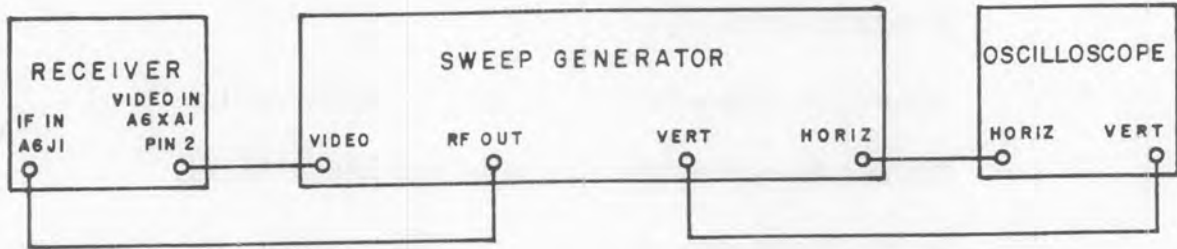
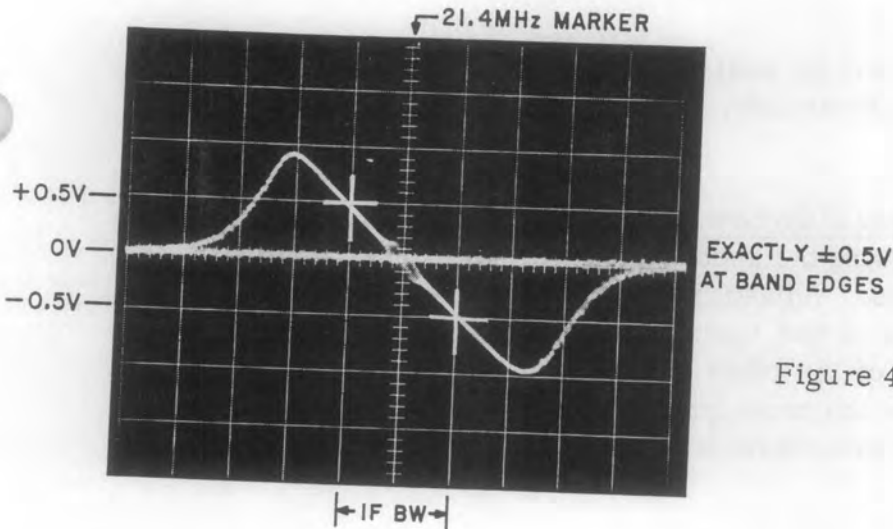

Figure 4-11. Test Setup for FM Discriminator Alignment
Figure 4-12. Ideal FM Discriminator Output "S" Curve
- (1) Connect the equipment as shown in Figure 4-11.
- (2) Select bandwidth number 1 with the IF BANDWIDTH switch, and select the FM mode with the MODE switch.
- (3) Turn the VIDEO GAIN control fully clockwise.
- (4) Set the sweep generator level at approximately -30 dBm, and sweep the sweep generator approximately 20% more than the selected bandwidth about a center frequency of 21.4 MHz. Adjust the oscilloscope controls and refine the sweep generator control settings for a display curve resembling an "S" similar to the one shown in Figure 4-12. For narrow i-f bandwidths, use a slow sweep speed to avoid having spurious filter response characteristics distort the waveform.
- (5) Adjust the A6A8 discriminator linearity and zero crossing controls, listed in Table 4-5 for this bandwidth, for a straight line extending from $+0.5$ V to -0.5 V between band edges. The exact shape of the remaining portion of the waveform is not critical as long as it has the general "S" shape. Note that there are two zero controls for the 3 MHz discriminator, whereas the other discriminators have only one. To adjust the 3 MHz discriminator, first temporarily remove the sweep generator input signal, and adjust R14 for a 0 V dc discriminator output. Then reconnect the sweep generator and adjust C2 and C6 for optimum linearity and zero crossing of the "S" curve.
- (6) Repeat the procedure for the remaining two bandwidths, adjusting the listed (Table 4-5) components on discriminator board A3A7 for bandwidth number 2, and on board A3A6 for bandwidth number 3.